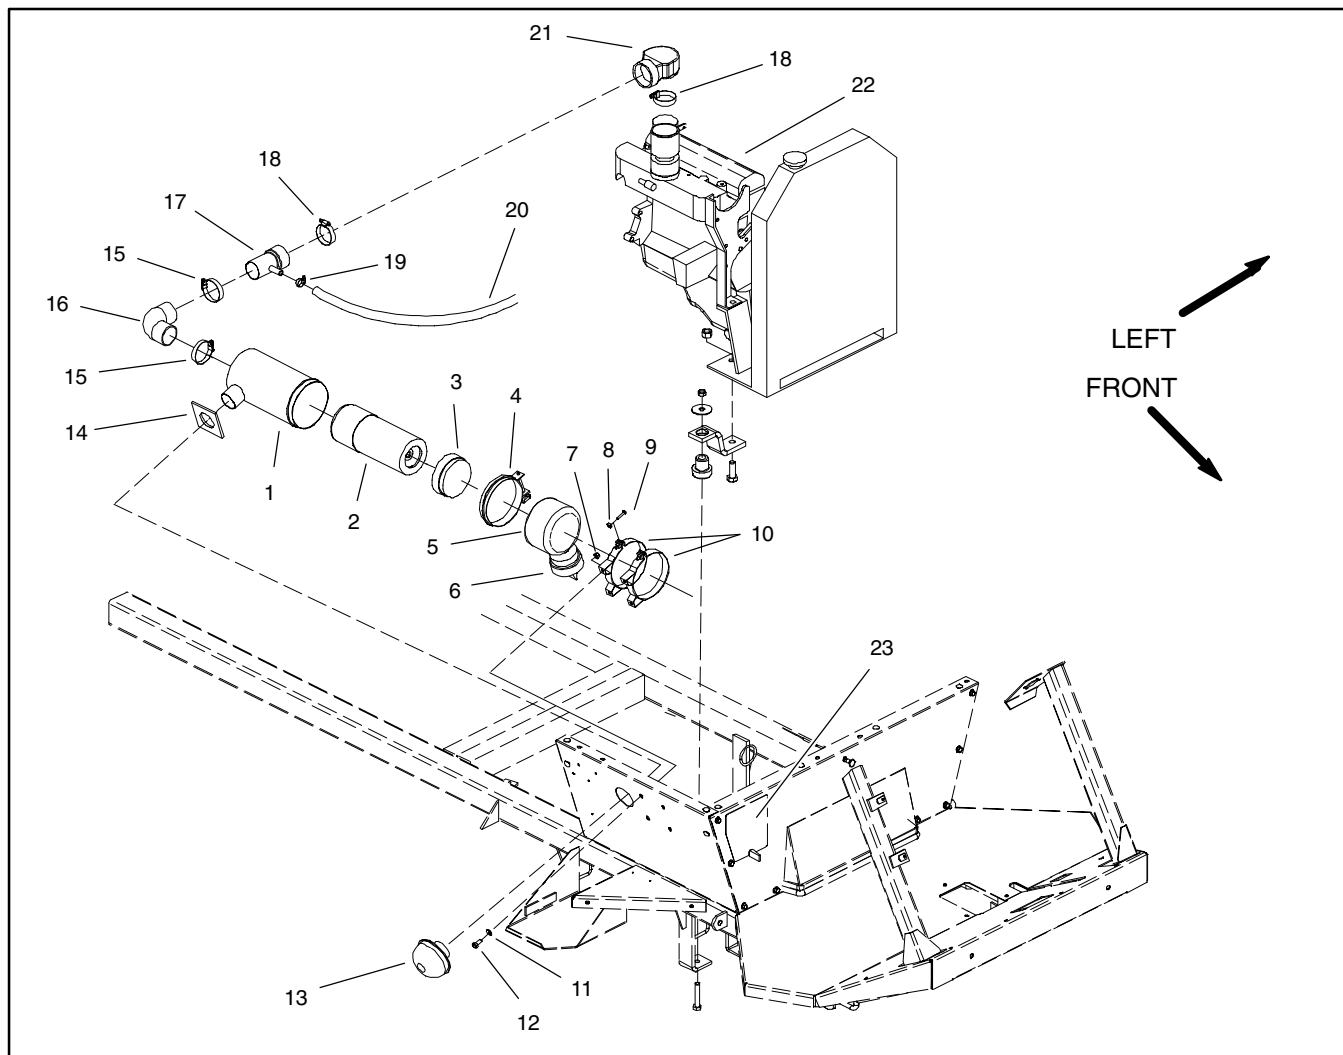

Figure 11
Removal (Fig. 11)
2. Remove air cleaner components as needed using Figures 11 and 12 as guides.
Installation (Fig. 11)
1. Reassemble air cleaner system using Figures 11 and 12 as guides.